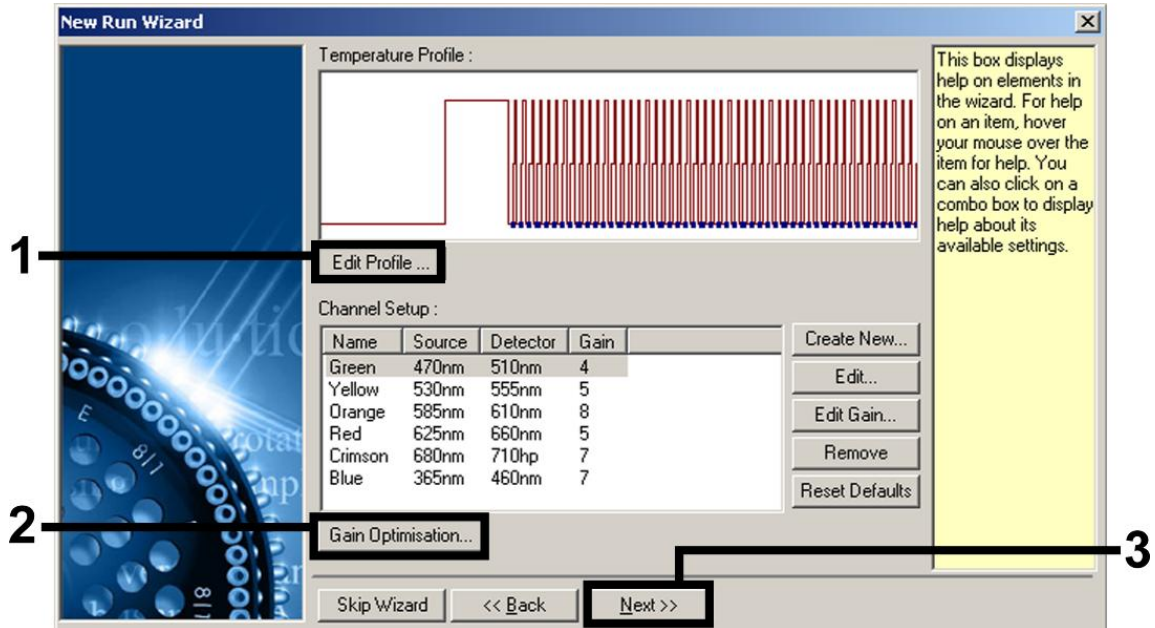
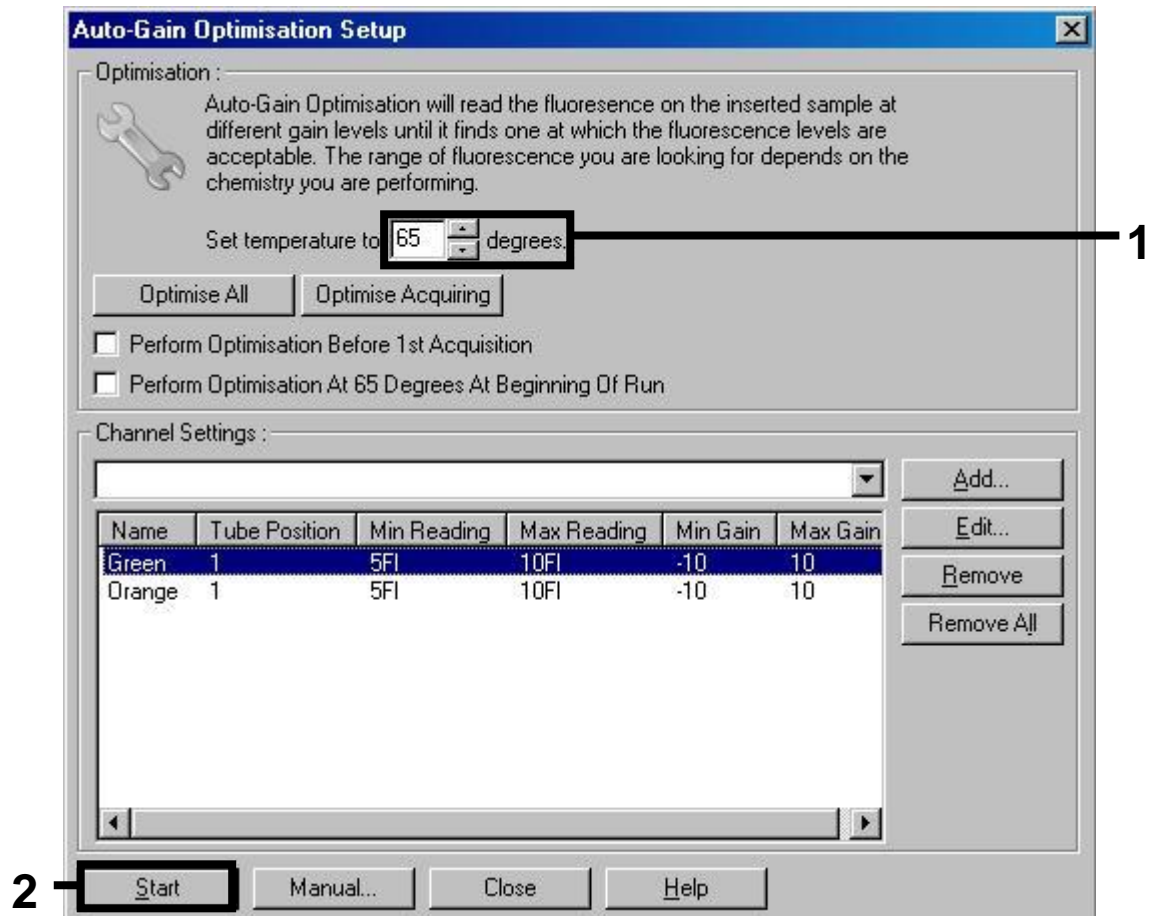

Figure 3. Editing the profile.
Figure 6. Adjusting the fluorescence channel sensitivity.
Adjusting the fluorescence channel sensitivity	Figure 6
- Click the "Edit Profile" button in the next "New Run Wizard" dialog box (Figure 3), and program the temperature profile as shown in Figures 3–5).
- The detection range of the fluorescence channels has to be determined according to the fluorescence intensities in the PCR tubes. Click "Gain Optimisation" in the "New Run Wizard" dialog box (see Figure 3) to open the "Auto-Gain Optimisation Setup" dialog box. Set the calibration temperature to 65 to match the annealing temperature of the amplification program (Figure 6).